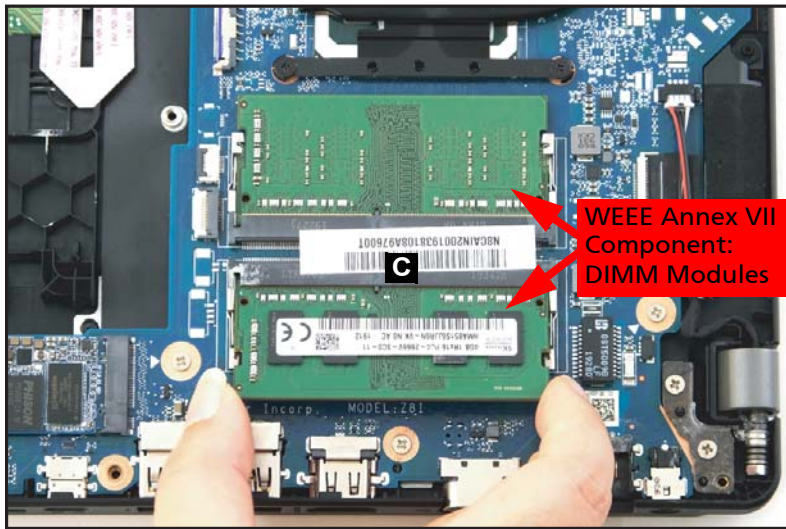

Figure 1-16. DIMM Module Removal
3. Remove the DIMM module from the mainboard connector (C) (Figure 1-16).